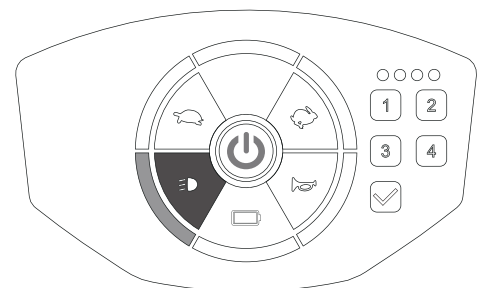

Figure 12
- Switch off by pressing the button again, the [💡] light will be off on the panel (figure 12)